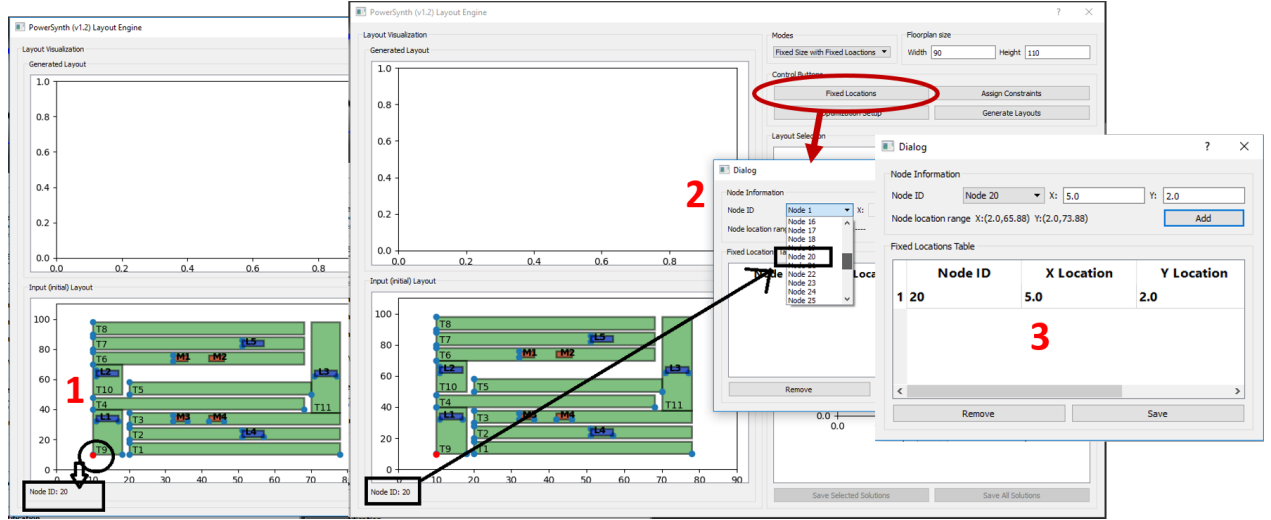

Figure 5: Fixed Location Setup
- **Fixed Size with Fixed Locations:** In this mode, “**Width**”, “**Height**” must be given. Besides, one additional requirement is the “**Fixed Locations**”. This button is used for allocating fixed coordinates to the desired nodes. On this mode, the input layout is updated with clickable dots on possible nodes of the layout as shown in Fig. 5 with marked as "1". To fix a node at certain coordinate, user needs to click on the node and the "**Node ID**" will appear at the bottom. Then, “**Fixed Locations**” button needs to be clicked to find the desired "Node ID". Upon selecting the "Node ID" from the drop down list, the valid x and y coordinate range will appear for that node. User needs to choose a value within the range and then "**Add**" button needs to be clicked to store the location. In the similar way, as much nodes as user want can
provide fixed location and then "**Save**" button needs to be clicked to apply the location values to the generated layout. A flow is shown in Fig. 5